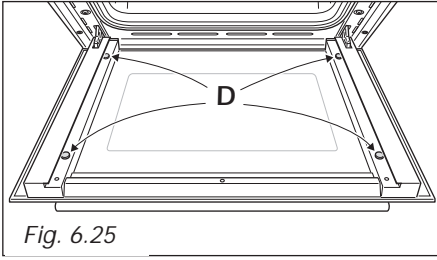

Fig. 6.25
- Check that the four rubber pads are in place (**D** in fig. 6.25).